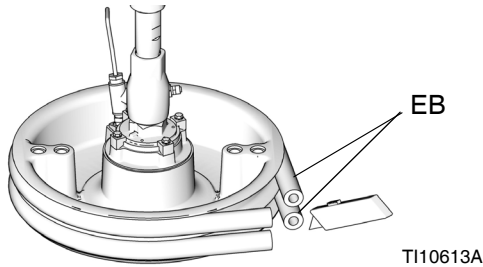

FIG. 15
1. To replace worn or damaged wipers (EB), raise platen up out of drum. Remove drum from base. Wipe fluid off of platen.
2. Cut top and bottom wipers with knife and remove from platen. See FIG. 15.